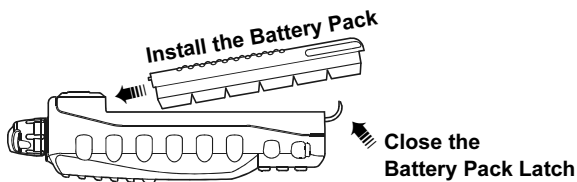

Figure 1
2. Install the battery pack on the transceiver (see figure 1 and section 3.2).